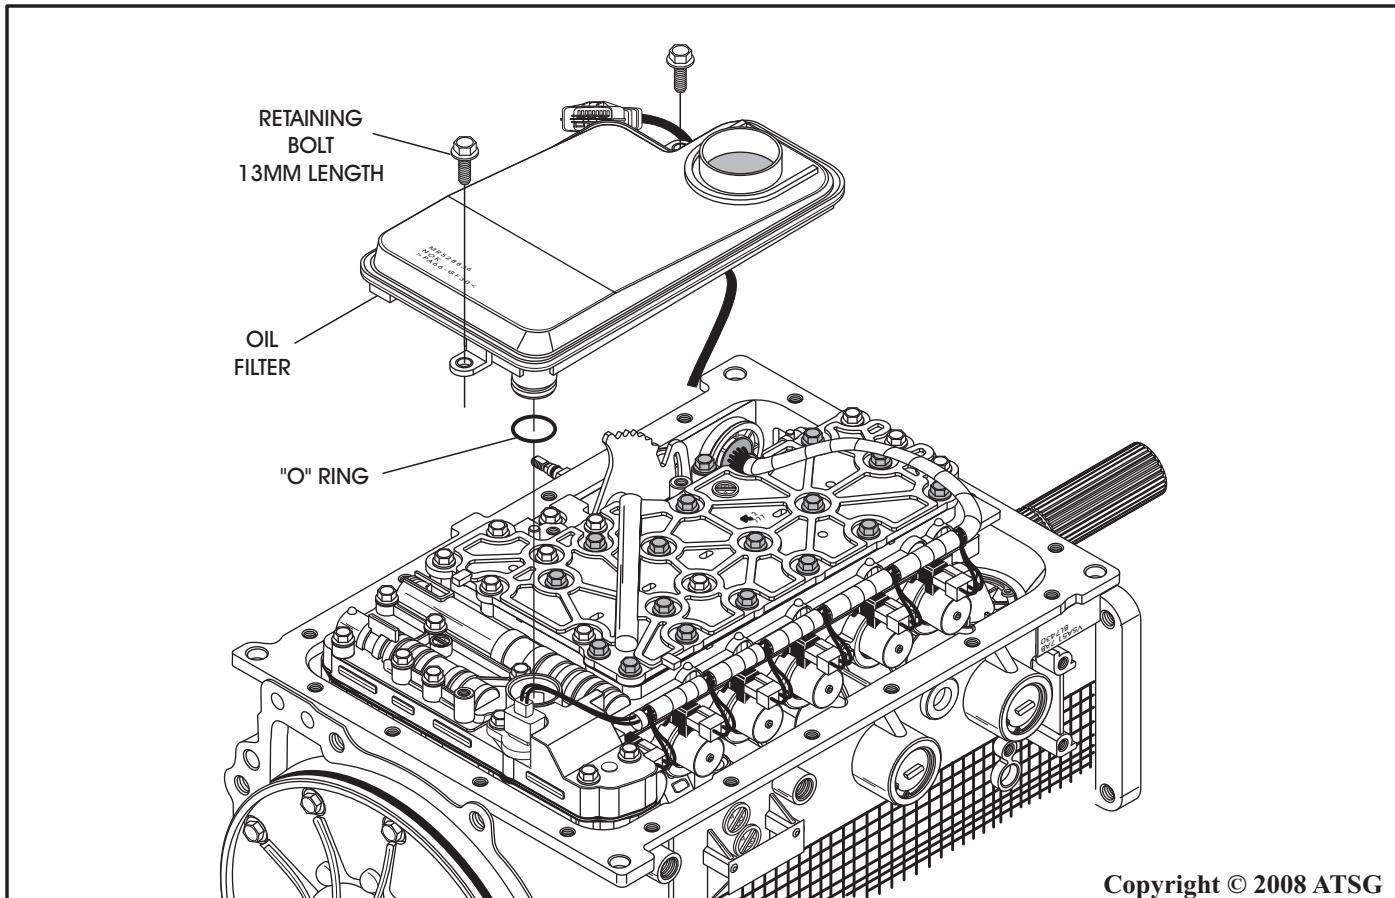

Figure 227
92. Fold the internal wiring harness back over the valve body and connect each of the solenoid connectors, as shown in Figure 227.
93. Install the connector on the TFT sensor, as shown in Figure 227.
95. Install the oil filter assembly onto transmission, as shown in Figure 227.